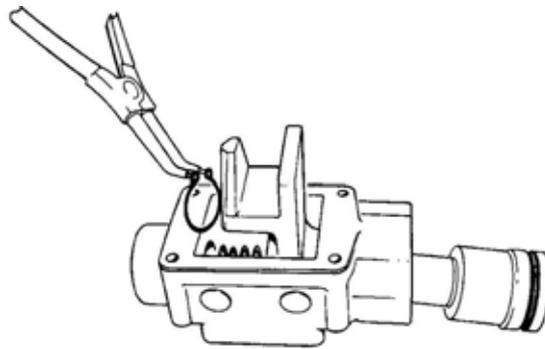

Figure 9 Removing the Circlip
- b. Push the piston into the cylinder bore by hand and remove the circlip retaining the selector fork to the piston from its groove (Figure 9).